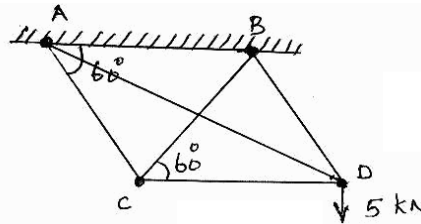

Fig Q. 11 (a)
11. (a) The frame shown in Fig. Q.11 (a) is pin jointed to rigid supports at A and B and the joints C and D are also pinned. The diagonals AD and BC act independently and the members are all of the same cross sectional area and material. ABC and BCD are equilateral triangles. Using energy method, find the forces in all the members if a load of 5 kN is hung at D.